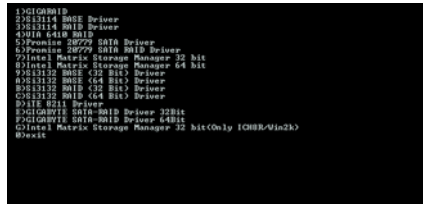
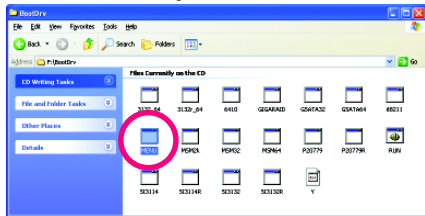

Figure 2
Figure 3
Step 2: When the controller menu (Figure 2) appears, remove the startup disk and insert the blank formatted disk. Select the controller driver by pressing the corresponding letter from the menu. For example, from the menu in Figure 2:
Use an alternative system and insert the motherboard driver disk. From your optical drive folder, double click the **MENU.exe** file in the **BootDrv** folder (Figure 3). A command prompt window will open similar to that in Figure 2.